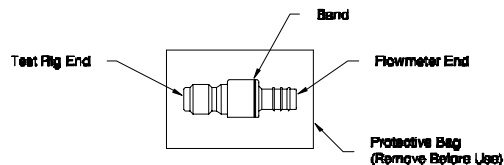

Figure 5: Sensing Plug
**Sensing Plug:** Figure 5. Provides sealant detection function.